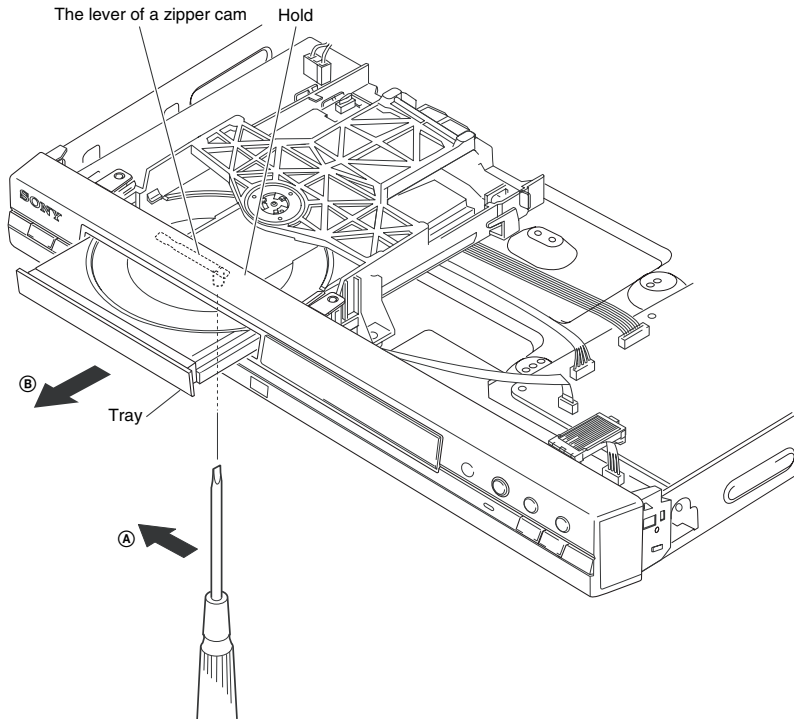

Fig. 1.
- 1) Open dust cover to access to a hole insert a tapering driver into the aperture of the unit bottom, and move the lever of chuck can in the direction of the arrow A. (See Fig. 1)
- 2) Draw out the tray in the direction of the arrow B, and remove a disc. (See Fig. 1)